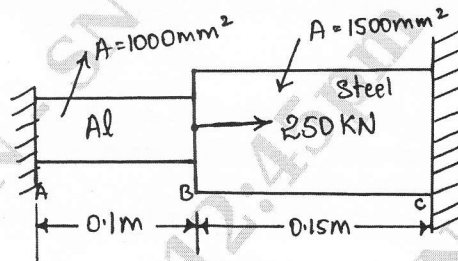

Fig Q2(c)
- A composite bar is shown in Fig Q2(c). Determine the stress developed in each member.